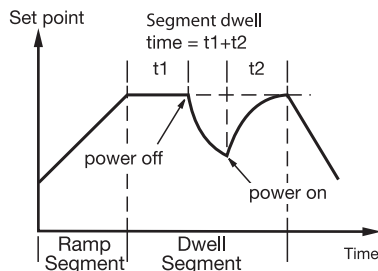
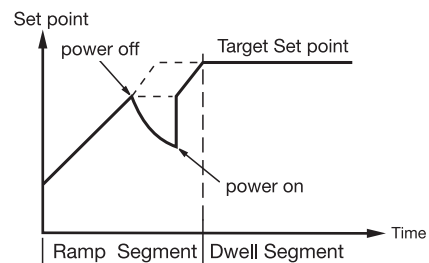

Figure 4.3 Recovery from profile at dwell segment
Figure 4.4 Recovery from profile at ramp segment
The parameters such as set point value (SV), time remaining (TIME), and cycle remaining (CYCL), will be restored to their power-down values. For an application that needs to bring the process value to the set point value as soon as possible, *cont* is the best choice. The two diagrams below illustrate the respective responses, Fig. 4.3 if power fails during a dwell segment and Fig. 4.4 if it fails during a ramp segment.